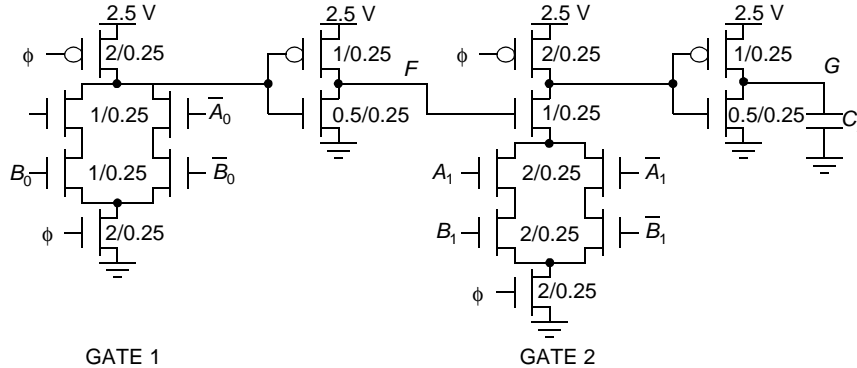

Figure 6.16 DOMINO logic circuit.
23. [C, Spice, 4.3] Figure 6.16 shows a dynamic CMOS circuit in Domino logic. In determining source and drain areas and perimeters, you may use the following approximations:  $AD = AS = W \times 0.625\mu\text{m}$  and  $PD = PS = W + 1.25\mu\text{m}$ . Assume  $0.1$  ns rise/fall times for all inputs, including the clock. Furthermore, you may assume that all the inputs and their complements are available, and that all inputs change during the precharge phase of the clock cycle.
24. [M, Spice, 4.3] In this problem you will consider methods for eliminating charge sharing in the circuit of Figure 6.16. You will then determine the performance of the resulting circuit.